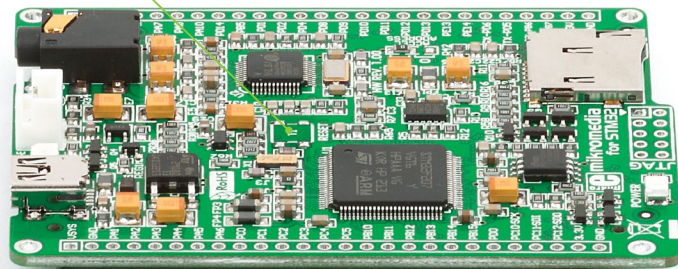

Figure 4-1: Location of additional reset button
**NOTE** You can also solder additional reset button on the appropriate place at the back side of the board, **Figure 4-1**.